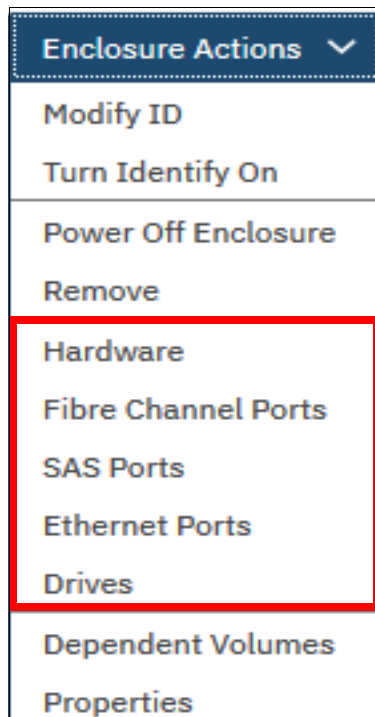

Figure 3-26 Canister details and vital product data
Additionally, from the Enclosure Actions pane, you can get an overview (View) of the hardware, available ports, and status for Fibre Channel (FC) and serial-attached SCSI (SAS) ports and Drives (see Figure 3-26).